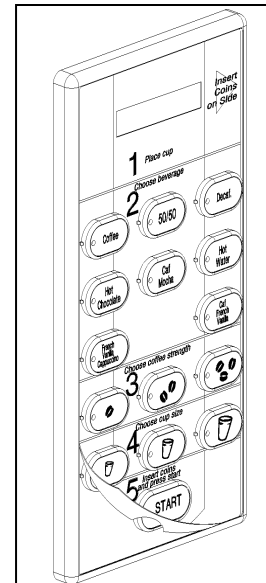

Figure 4 – Install Fascia
- Once aligned, press the fascia firmly in place (Figure 4).